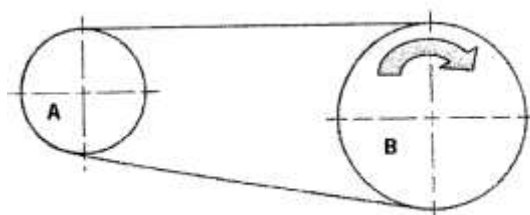

Figure 3
1.3 Copy figure 3 and draw an arrow on Pulley A to indicate the direction of rotation if Pulley B is the driver.